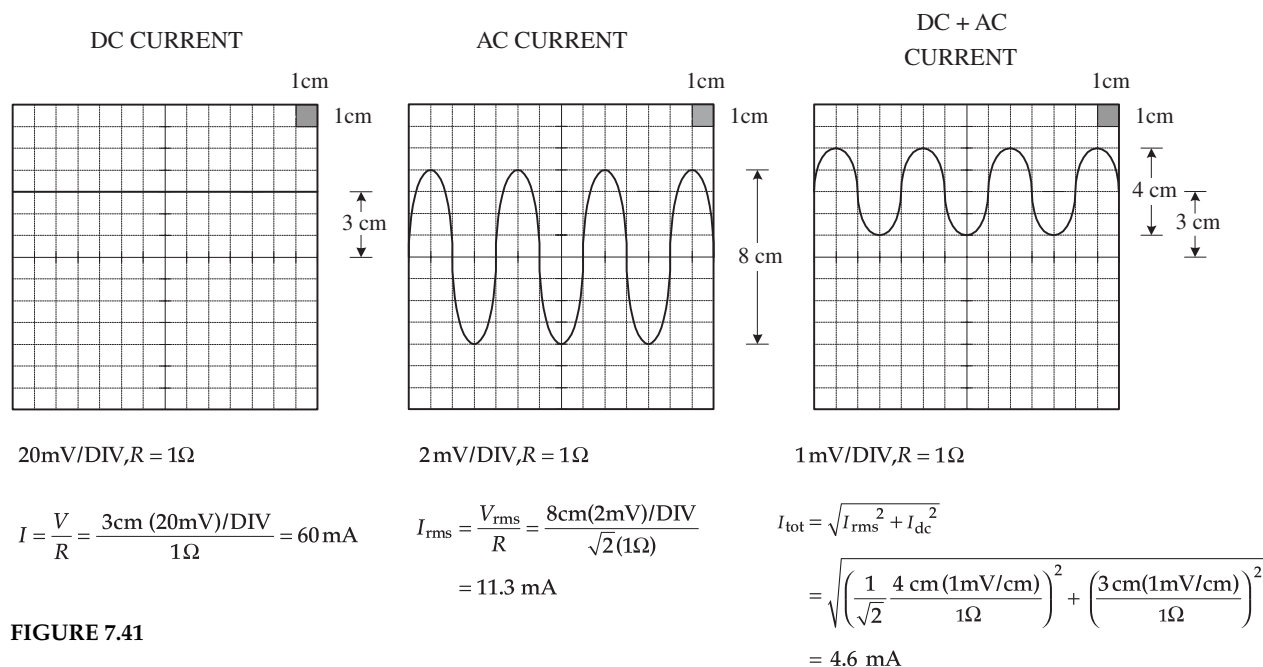

FIGURE 7.41
4. Measure the voltage drop across the resistor using the scope. The unknown current will equal the magnitude of the voltage measured, provided that you stick with the 1 Ω resistor. Figure 7.41 shows some example measurements, two of which describe how to measure RMS and total (dc + ac) effective currents.